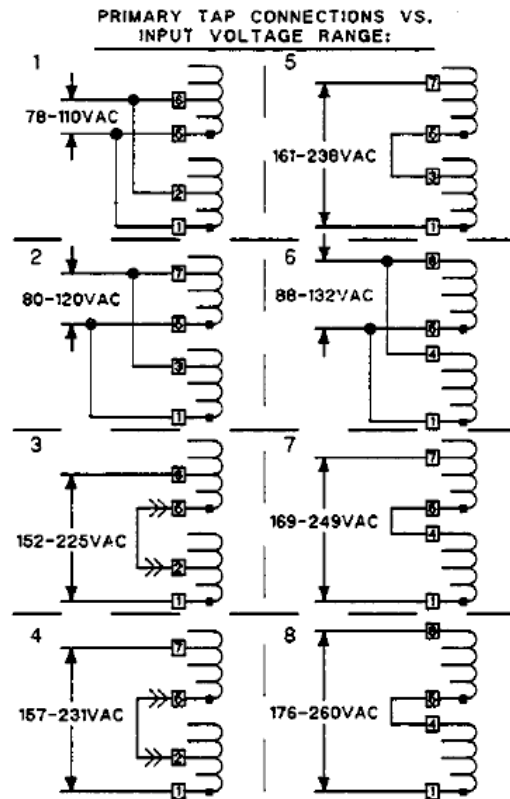

Figure 1. AC Voltage Ranges
The Dual Power Source has eight ac voltage ranges available (see Figure 1). The 88 to 132 Vac range is factory set. If a different range is desired, you must change the wiring at the transformer. T1 (transformer 1) is wired to TB 1-4 and TB1-5, and T2 (transformer 2), if used, is wired to TB1-1 and TB1-2. Each transformer has terminal strips mounted on the sides of it.
3. Connect the wires and jumpers for the ac voltage range selected in Figure 1.